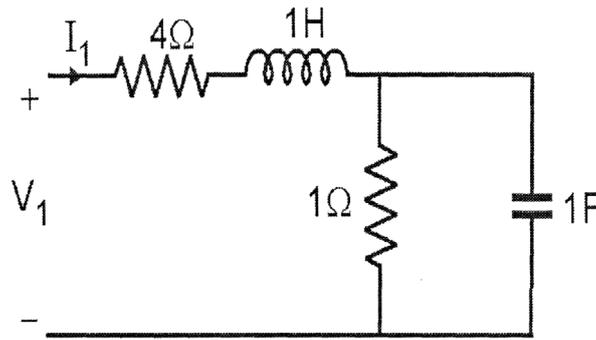

Fig. No.6
- Q7) a) Draw pole-zero plot of the driving point impedance of the network shown in Fig. No.6. [9]